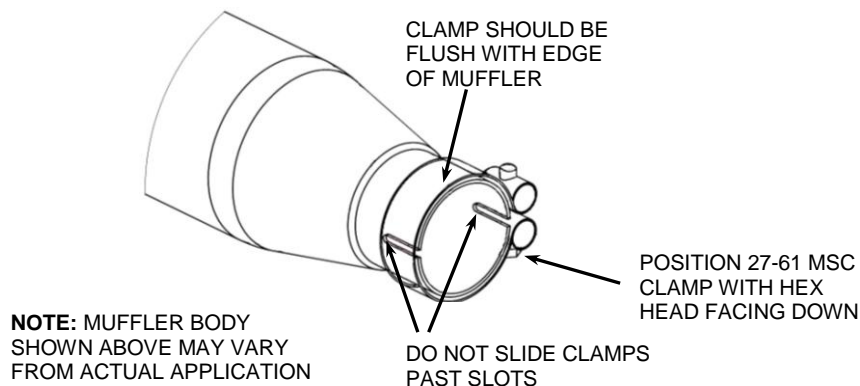

FIGURE 2
10. Position the supplied #27-61 MSC muffler clamp with hex head facing the direction shown in **FIGURE 2** and slide onto the rear muffler inlet tube.
12. Secure the muffler assembly to the exhaust mount bracket using the (2) supplied 5/16"-18 bolts but **DO NOT TIGHTEN**.
13. Make sure the rear muffler assembly and front headpipe are straight and parallel and tighten in the following order; headpipe flanges to the cylinders (slowly tightening opposing nuts), muffler assembly to the exhaust mount and finally the muffler clamp. (NOTE: The muffler clamp should be flush with the end of the muffler inlet when tightened. See **FIGURE 2**. If the muffler clamp is slid past the slots on the muffler inlet the clamp will not tighten properly).
15. Install the front heatshield. Slide the rear portion of the heatshield forward over the muffler while gently pushing the front of the heatshield into place between the frame and motor (NOTE: Spread the hose clamps apart slightly to make it easier to slide them over the muffler assembly and headpipes.) See **FIGURE 3**. Make sure the muffler clamp does not interfere with the heatshield and is aligned as shown in **FIGURE 2**.